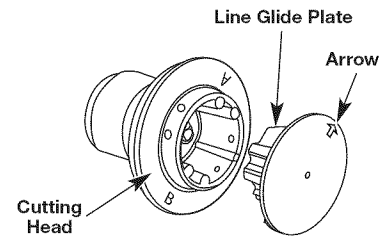

Fig. 23
- Reinstall line glide plate (Fig. 23). Align arrow with: "A" when using medium (red) or large (black) line, or "B" when using lines with diameters smaller than medium (red) line